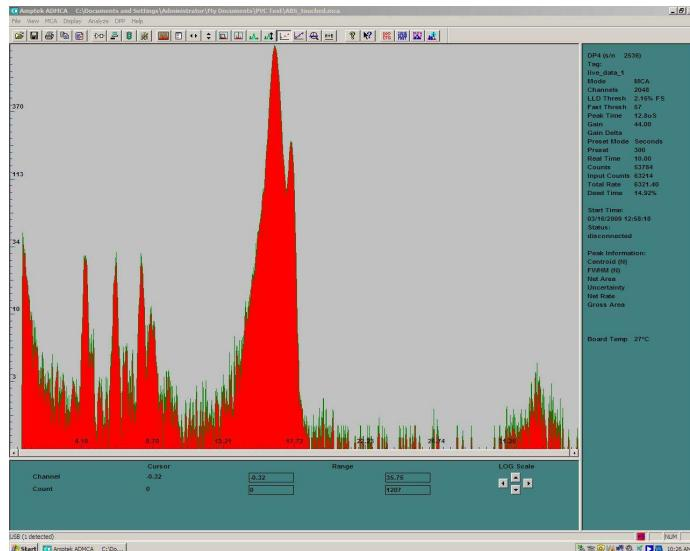

Figure 10: the Amptek software window
- Click the ‘Analyze’ tab at the top of the Amptek software window as shown in Figure 10, and click ‘Calibrate’.
- Choose a well-known peak for your calibration material and select the center of the peak by left-clicking. Adjust the horizontal and vertical scales with the arrows on the bottom (refer to Figure 10) right in order to better locate the center of the peak. Input the energy value of that peak, then click ‘Add’. Repeat this step so that at least 2 points are chosen for calibration.